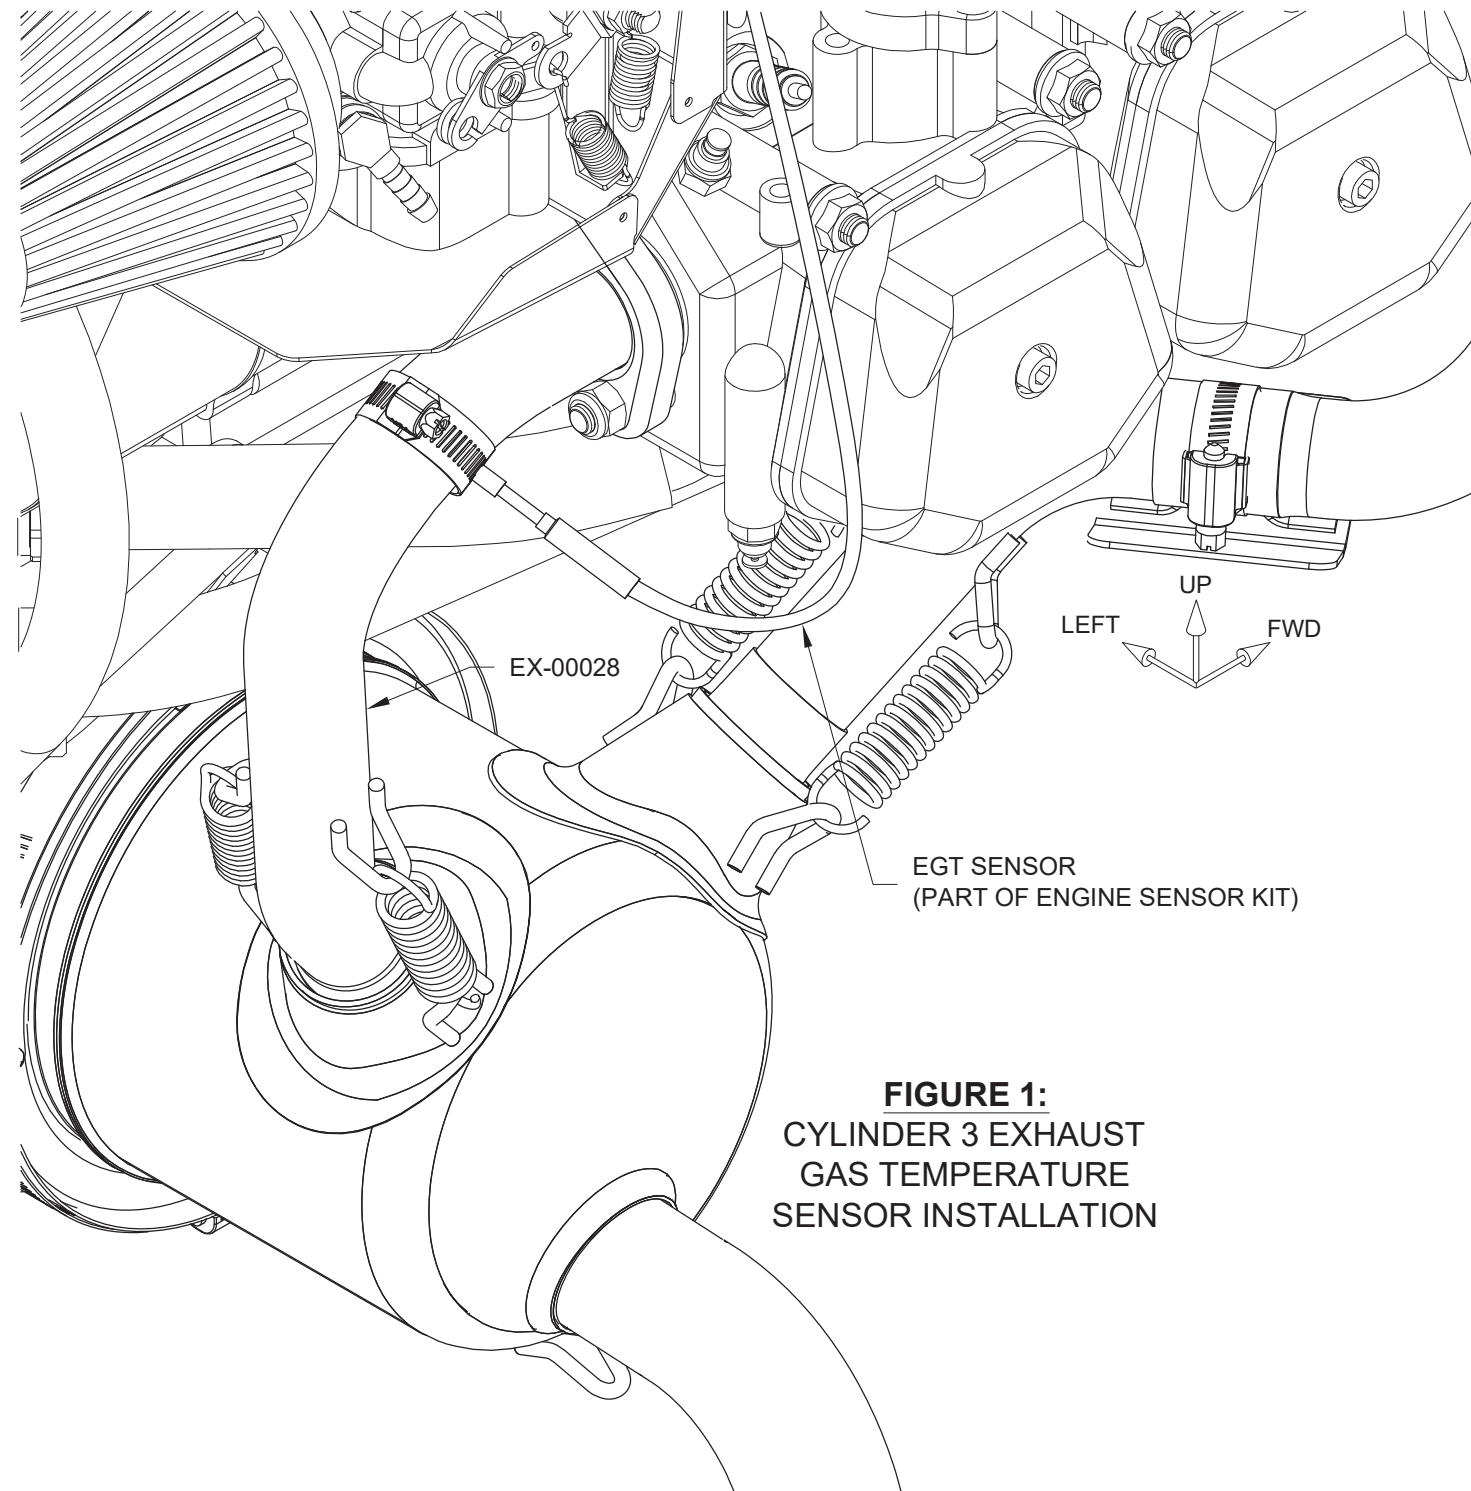

FIGURE 1:
Step 1: Install one of the EGT sensors into the EX-00028 Cylinder #3 Exhaust as shown in Figure 1.
The EGT sensor wire is routed from the exhaust along the right carburetor fuel hose (not shown in Figure 1) upward and inboard to the top of the engine where it then follows the pitot line aft and down to the point where its spade connectors are mated to the EGT-R wires coming from the aft side of the firewall.